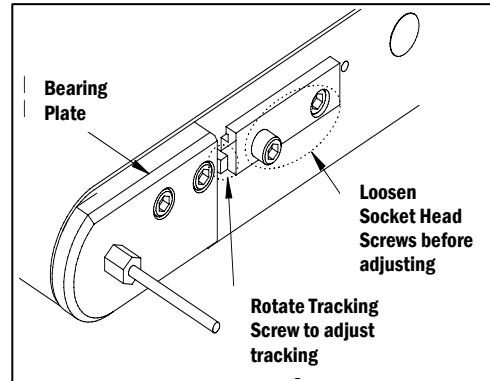

Figure 1
① Track the Drive End
a. Loosen all four 5/16" Driver Assembly Screws (two on each side) one-half turn (**Figure 1**).